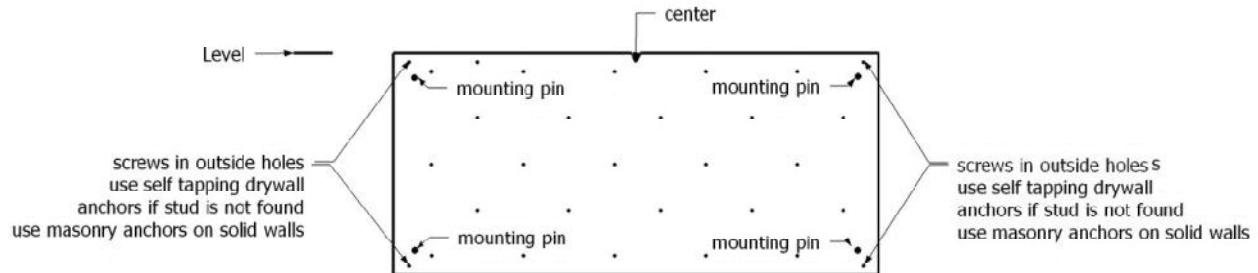

Figure 1
3. Place the Installation Plate along the horizontal line and line up the center “V” cut out with the center line. See Figure 1.
7. The mounting plate has four location pins, one at each corner of the plate. See Figure 1.